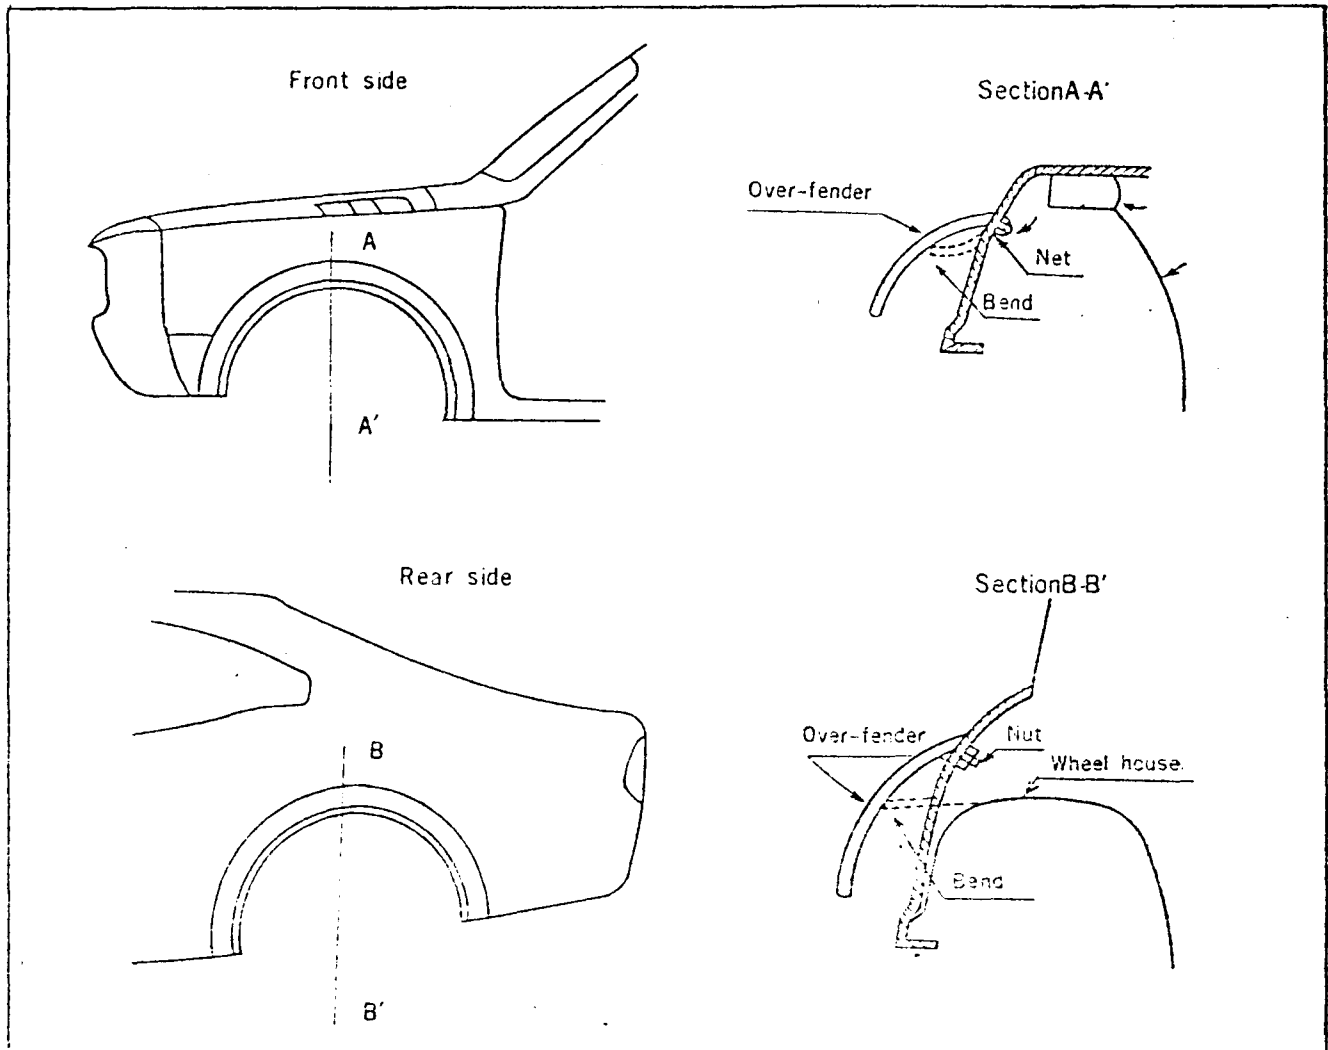

Fig. 4-5 Attaching of Over-Fender
(1) Bend all fenders outward to ensure enough clearance between the tire and fender and prevent interference with each other, taking the maximum bound into consideration. Refer to Fig. 4-5.
(2) Fit over-fender to the body and drill holes at nine places for attaching it.
(3) Attach the over-fender and tighten it with nuts.